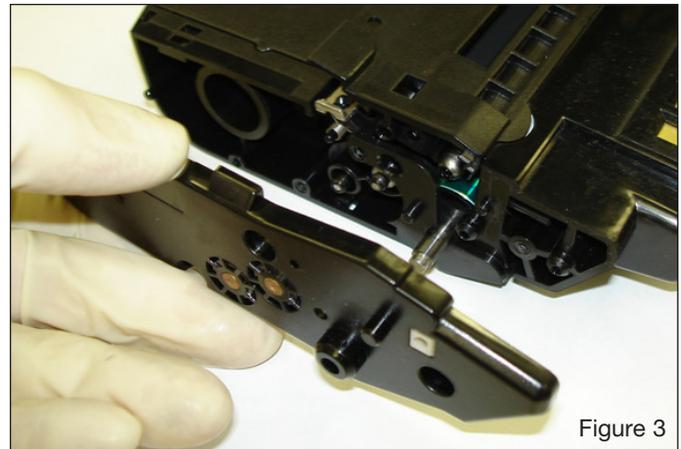

Figure 3
3. Remove the end plate from the cartridge as shown in Figure 3. A slotted screwdriver may be needed to gently pry the end plate away from the cartridge.